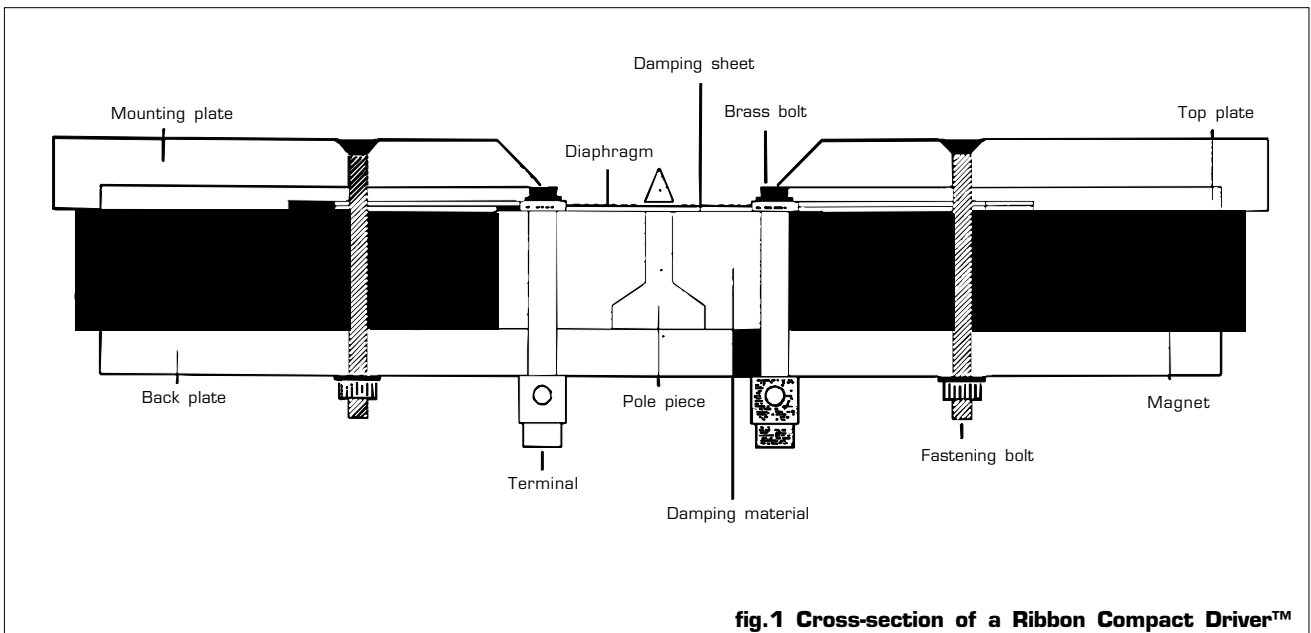

fig.1 Cross-section of a Ribbon Compact Driver™
3. Remove the two brass bolts and rings that keep the diaphragm in place (see figure 1).